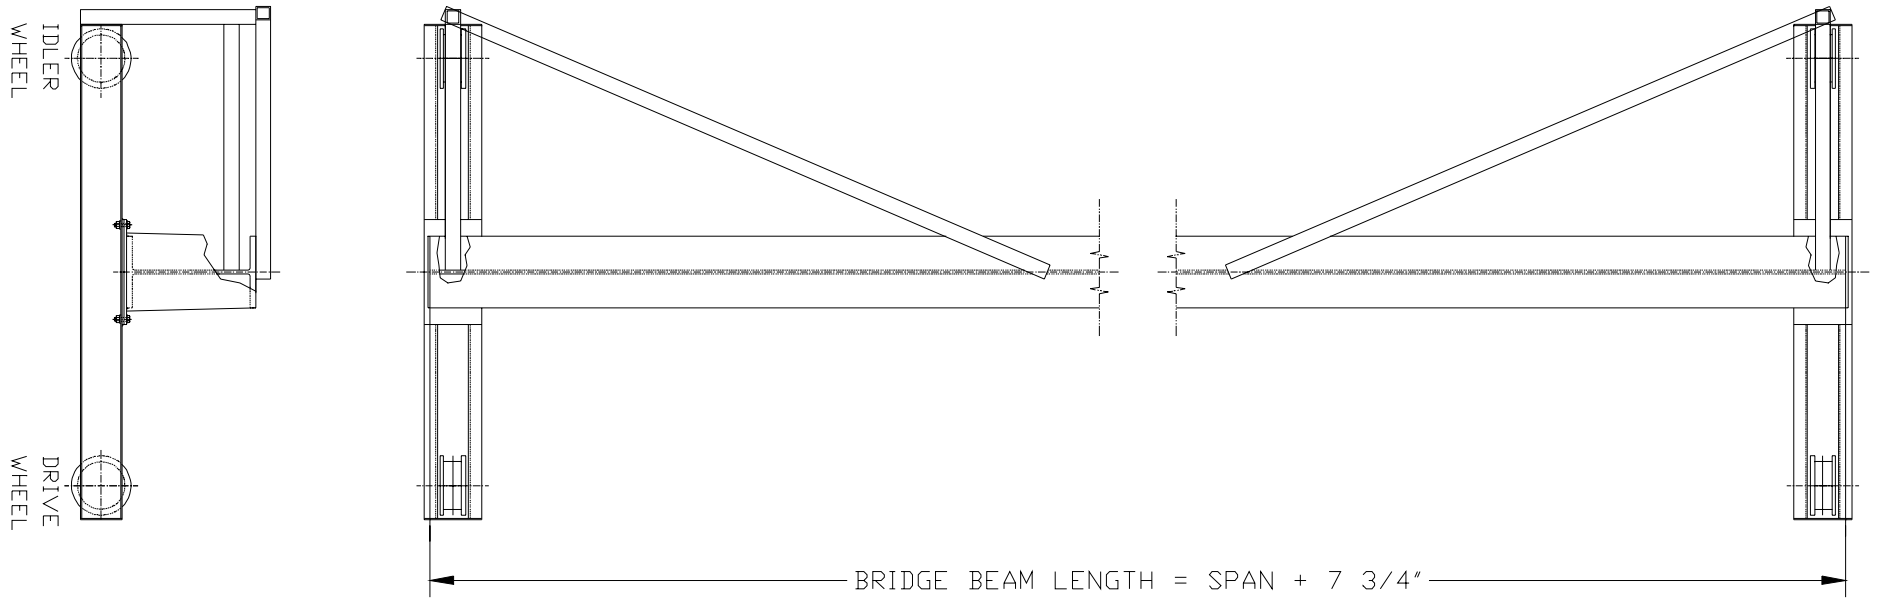

Figure 7a.
9. To provide rigidity to the bridge, four braces (one to each corner and one to girder web parallel to truck) may be added in the position shown in Figure 7a. On a motor driven crane it may be necessary to move the electrical enclosure for clearance.